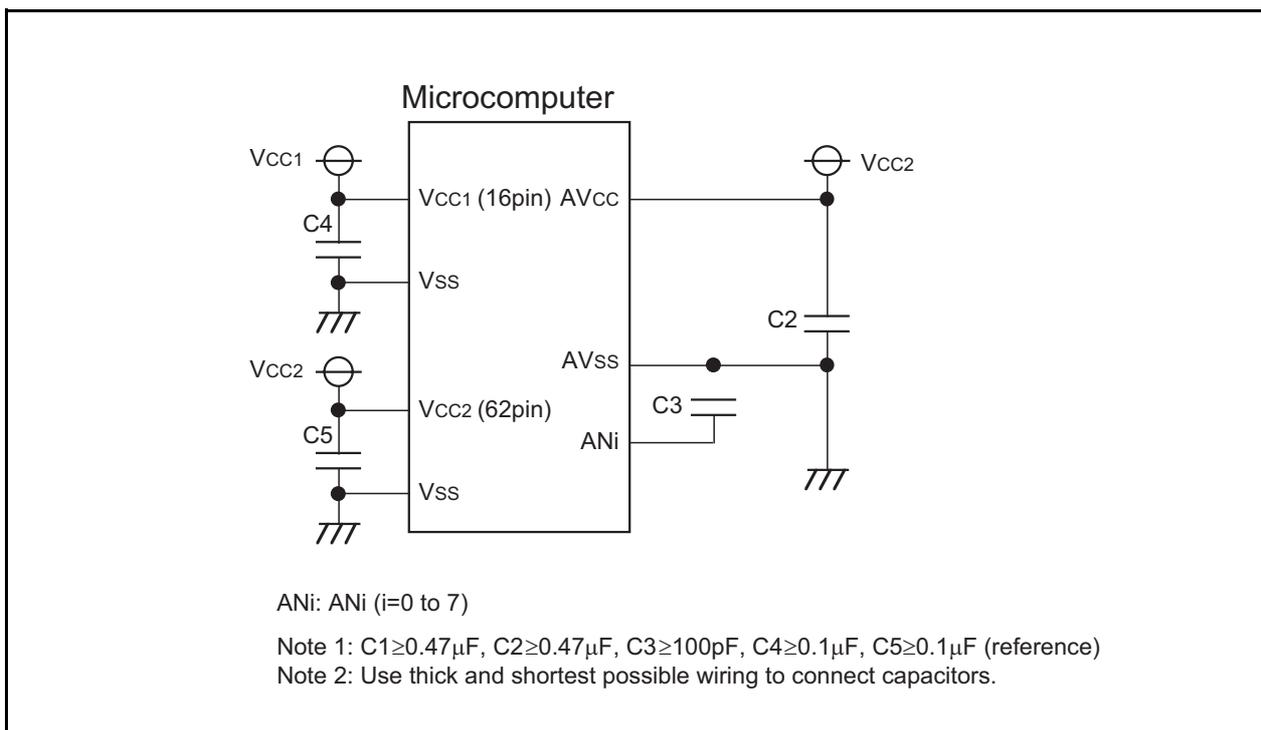

Figure 19.2 Use of capacitors to reduce noise
- (1) Set ADCON0 (except bit 6), ADCON1 and ADCON2 registers when A/D conversion is stopped (before a trigger occurs).
- (2) When the VCUT bit of ADCON1 register is changed from “0” (Vref not connected) to “1” (Vref connected), start A/D conversion after passing 1 μ s or longer.
- (3) To prevent noise-induced device malfunction or latchup, as well as to reduce conversion errors, insert capacitors between the AVCC and analog input pins (AN_i (i=0 to 7)) each and the AVSS pin. Similarly, insert a capacitor between the VCC pin and the VSS pin. Figure 19.2 is an example connection of each pin.
- (4) Make sure the port direction bits for those pins that are used as analog inputs are set to “0” (input mode). Also, if the ADCON0 register’s TGR bit = 1 (external trigger), make sure the port direction bit for the $\overline{\text{ADTRG}}$ pin is set to “0” (input mode).
- (5) The ϕ AD frequency must be 10 MHz or less. Without sample-and-hold function, limit the ϕ AD frequency to 250kHz or more. With the sample and hold function, limit the ϕ AD frequency to 1MHz or more.
- (6) When changing an A/D operation mode, select analog input pin again in the CH2 to CH0 bits of ADCON0 register and the SCAN1 to SCAN0 bits of ADCON1 register.
- (7) If the CPU reads the AD_i register (i = 0 to 7) at the same time the conversion result is stored in the AD_i register after completion of A/D conversion, an incorrect value may be stored in the AD_i register. This problem occurs when a divide-by-n clock derived from the main clock or a subclock is selected for CPU clock.